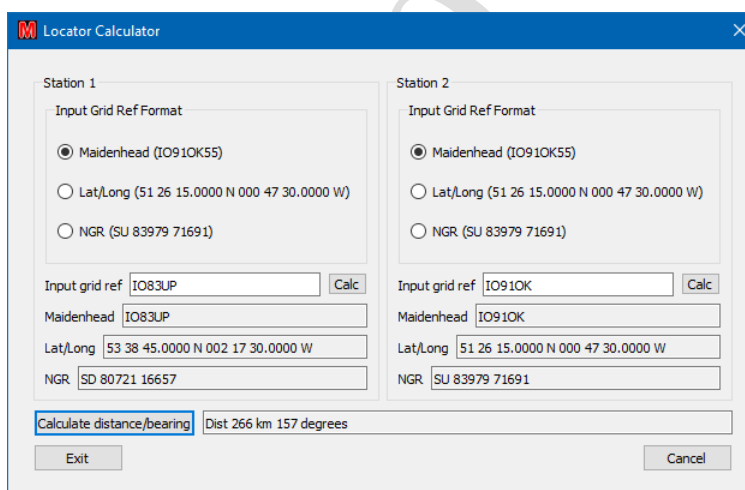

Figure 41 – Locator calculator
Depending on the option selected, you can enter a Locator, a Latitude/Longitude, or a (UK) National Grid Reference⁴⁵ into the “**Input grid ref**” box (see Figure 41) and convert between the various displays. Selecting “**Calc**” (or hitting “**Return**”) will then calculate and display the other two formats. If both Station details are given it also calculates the distance and bearing from Station 1 to Station 2.